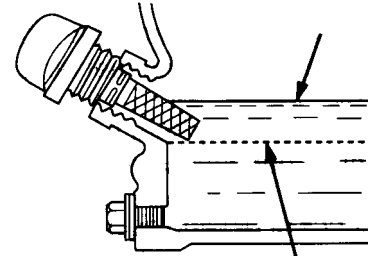

Figure 5. Engine Oil Dipstick (Oil Level)
4. If the oil level is low (See Figure 5), fill to the edge of the oil filler hole with the recommended oil type (Table 5). Maximum oil capacity is 1.16 quarts (1.1 liters).